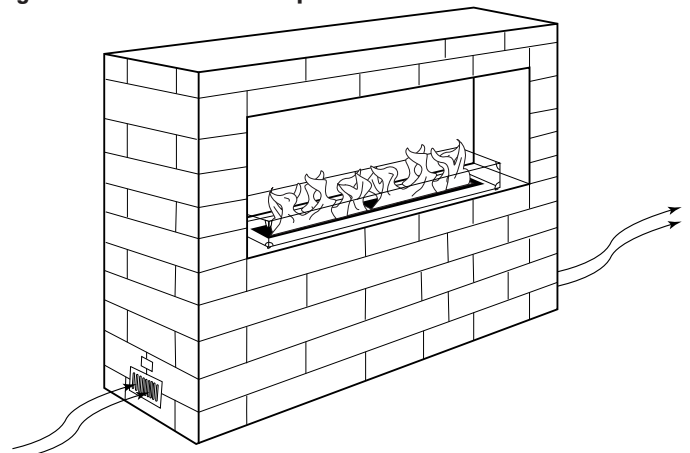

Figure 3 - Cross ventilation example providing minimum of 18-square inches per side using the Cross Ventilation Kit, VENT-KIT-6x12 (Cat. No. F3535), provided.
9. **CAUTION:** A minimum of 18 square inches of cross ventilation (per side) is required to keep the inside of the enclosure dry. Install the supplied VENT-KIT-6x12 (cat. no. F3535) approximately 3 to 4 inches from the floor centered on each end of the fireplace (See Figure 3, Page 5).
Fireplaces are subjected to many outdoor elements such as rain, snow, wind, heat or cold. A minimum of 18 square inches of cross ventilation (2 sides) is required to keep the components in good working order. Use *Figure 3* as a guide.